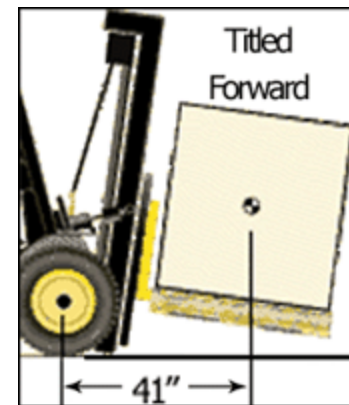

Figure 2. Tilting the mast forward increases the load distance and makes the load less stable
- Secure the load so it is safely arranged and stable. [29 CFR 1910.178(o)(1)] Do not carry damaged merchandise unless it has been secured by wrapping or banding. (Figure 2)
- Never travel with the load tilted forward. Tilting the load forward increases the load distance and makes the load less stable (Figure 2).